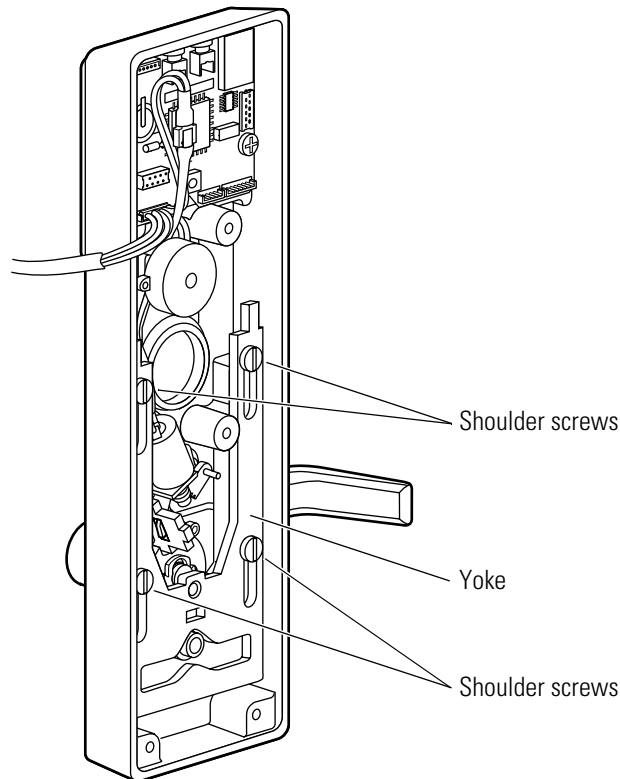

Figure 10.12 Removing and reinstalling the yoke
2. Unscrew the 4 shoulder screws and discard. See Figure 10.12.
3. Tightly secure the yoke to the escutcheon using the 4 new shoulder screws (20–25 lbs. torque). See Figure 10.12.